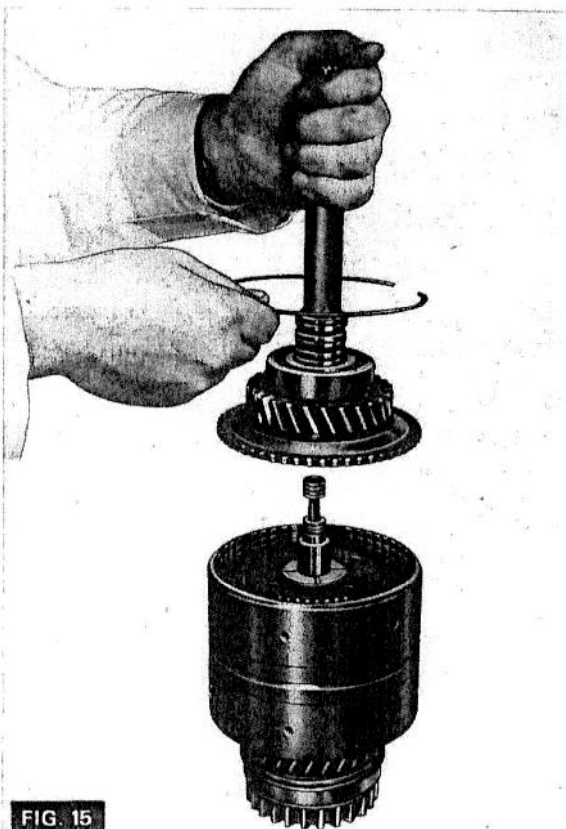

FIG. 15
3. (Fig. 15) Remove the large circlip from the forward clutch drum and lift off the input shaft.